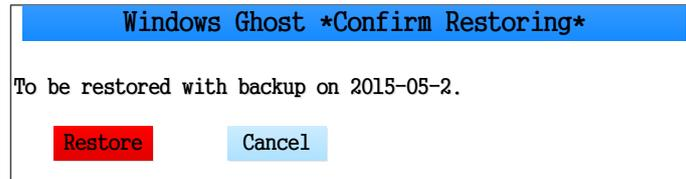
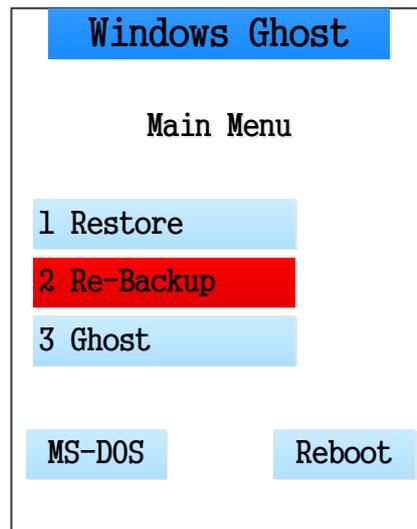

Fig. 4-7 Restoration confirmation
Fig. 4-8 Re-backup
- 2) It jumps to restoration confirmation interface, as shown in Fig. 4-7. Select “Cancel” and press “Enter” to access the operation interface as shown in Fig. 4-8.
- 3) Select “2 Re-Backup” as shown in Fig. 4-8.
After re-backing up the system, if you need to use windows ghost restoration function, select “Restore” in Fig. 4-7, and do as the tips to restore to the leaving factory state.